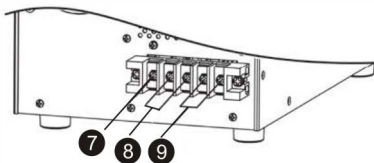

Figure 3 : 6K(S)/10K(S) Input and output terminal
5. Enter/output terminals) for details, see figure 3